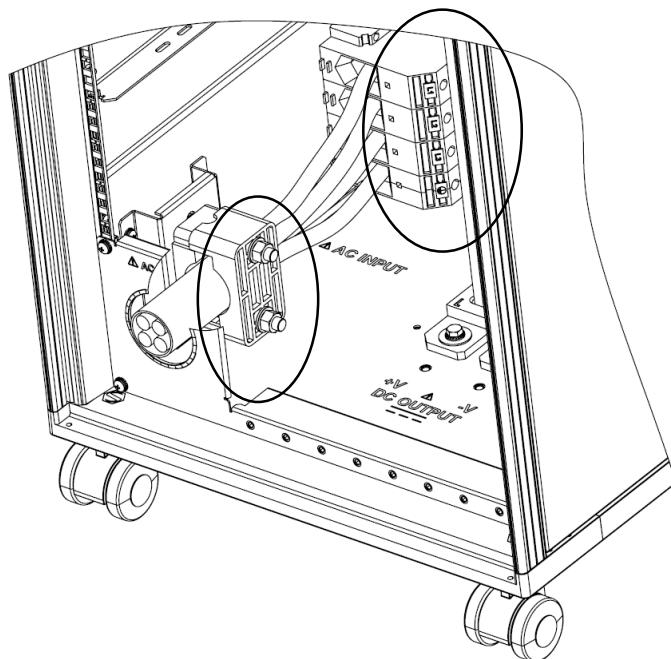

Figure 4-9: AC Wire Inserted Through and Fixed to the AC Connector
2. Insert the AC wires into the AC input connector UKH as shown in Figure 4-9.